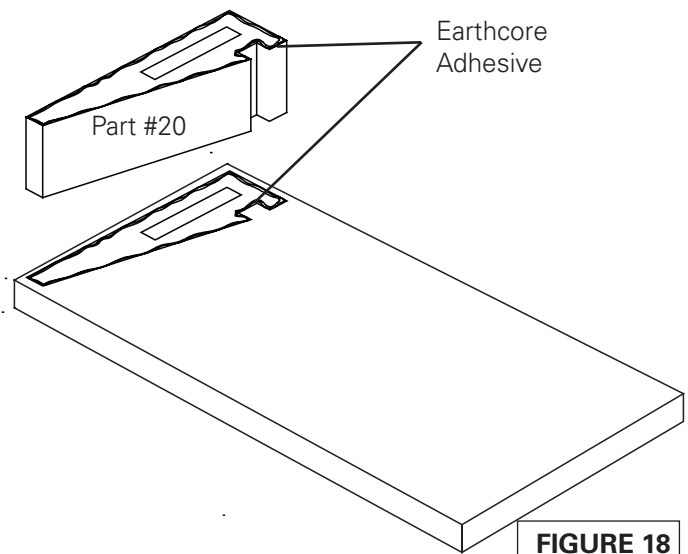

FIGURE 18
If the design preference is for a raised hearth (floor of the fireplace elevated above the room's floor), then the base plate can be set on a noncombustible platform that is built up to the desired raised hearth height on the concrete support slab. (Figure 18)
2. Set the first course of the firebox side walls and back walls into place. **(Figure 18 & 19)**